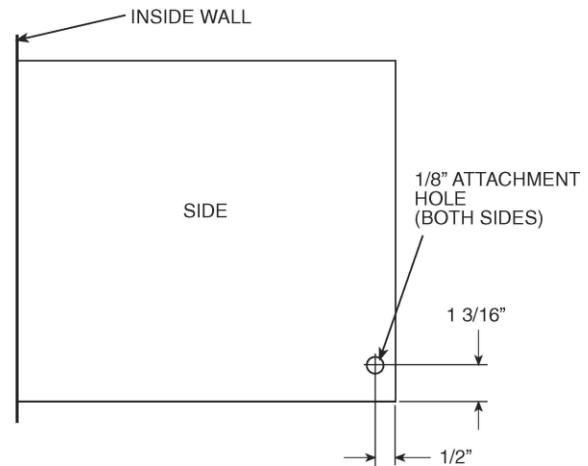

Fig. 2 — Wall Sleeve
Step 1 — Drill a 1/8 in. diameter hole on each side of wall sleeve. See Fig. 2 for mounting hole location (plastic wall sleeve will have a locator dimple).